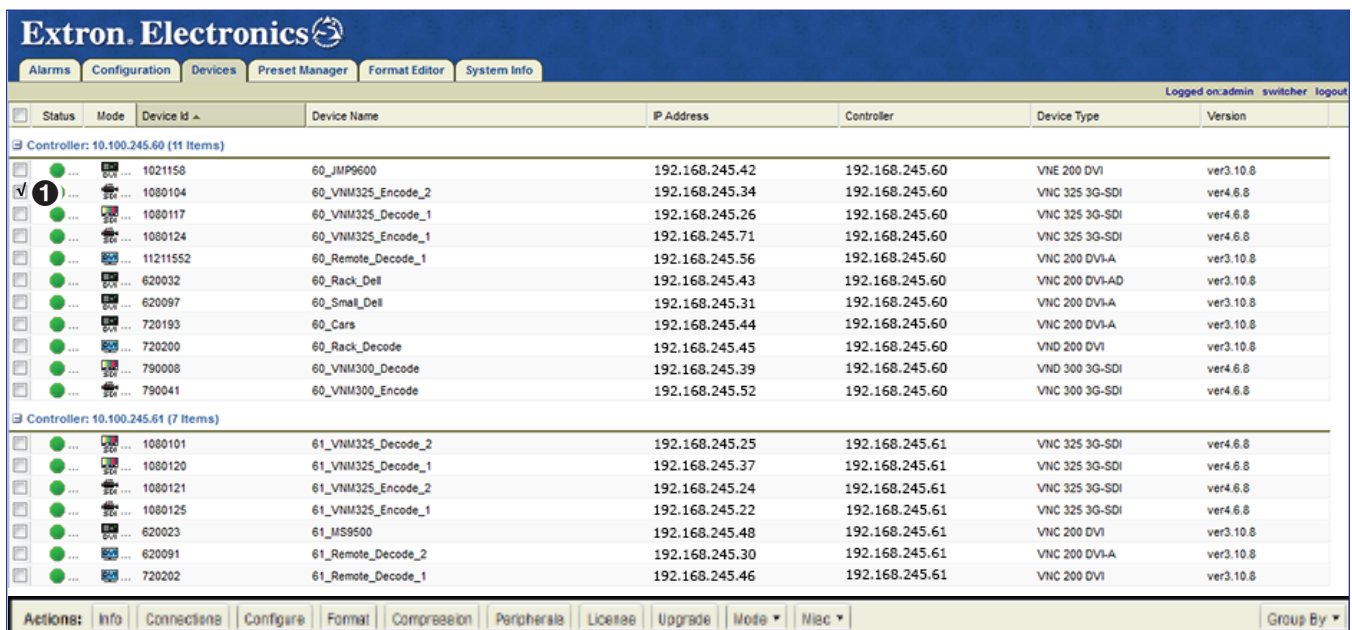

Figure 30. Encoder Actions Bar
1. Click a device on the **Devices** page (see figure 30) to open its action bar.
The VNM 325 is selected in the example in figure 30 (1). Notice the check in the device selection box. When a device is selected, the **Actions** menu bar at the bottom of the page enables all options, connections, and configuration for the device.